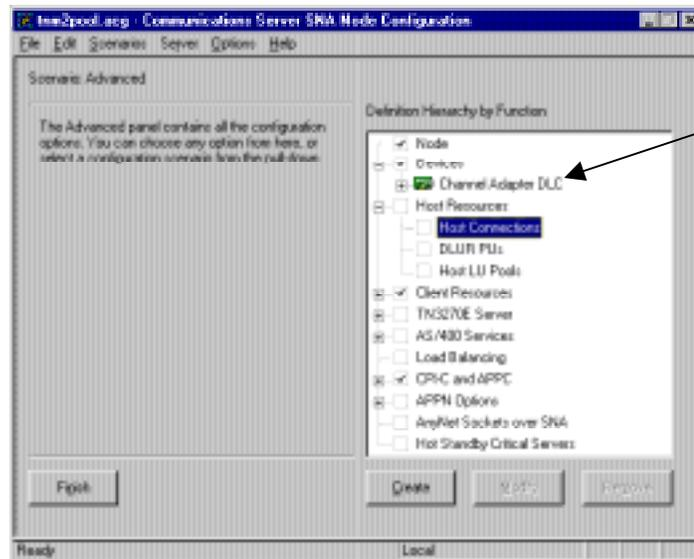

Figure 15-7. ESCON Adapter DLC
2. Verify that the ESCON adapter is in the list of devices in the configuration (Figure 15-7).